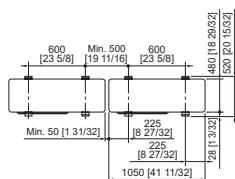

Fig. 3-2
- When installing multiple outdoor units, satisfy the requirements shown in Fig. 3-2.